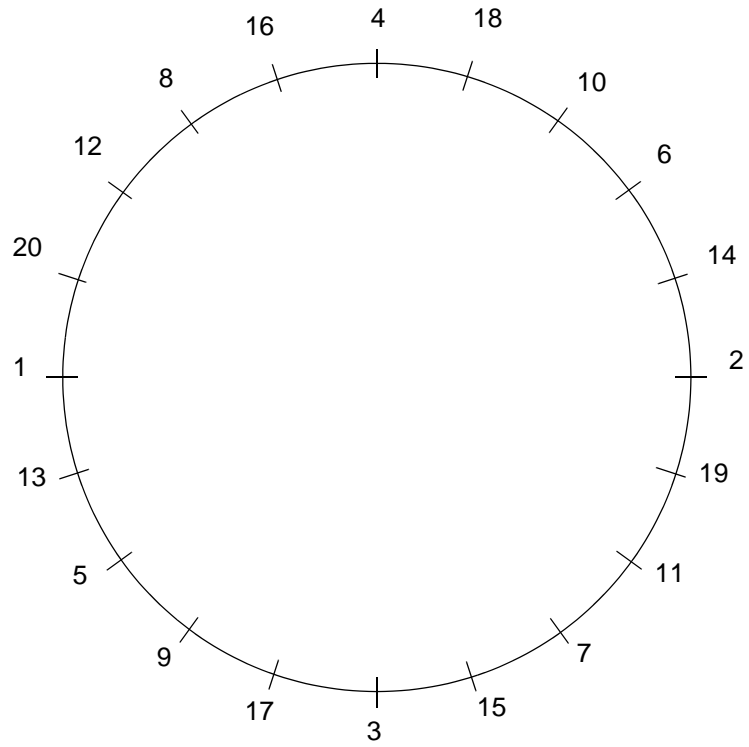

Figure 1
- Tighten in a star pattern (see figure 1) to a torque of 27 m.daN (18.30 lb.ft)